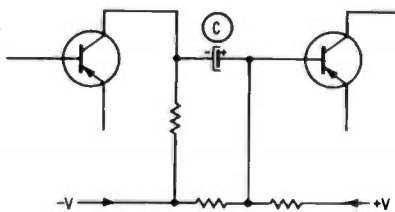

Fig. 8-7. Capacitive coupling.
Base bias can also be incorrect if the coupling capacitor feeding the transistor base is leaky or shorted. In Fig. 8-7, for example, the collector of the previous stage (pnp transistor) is normally more negative than the base of the transistor it drives. If the coupling capacitor (C) is open, the bias will not be affected, but little or no signal will